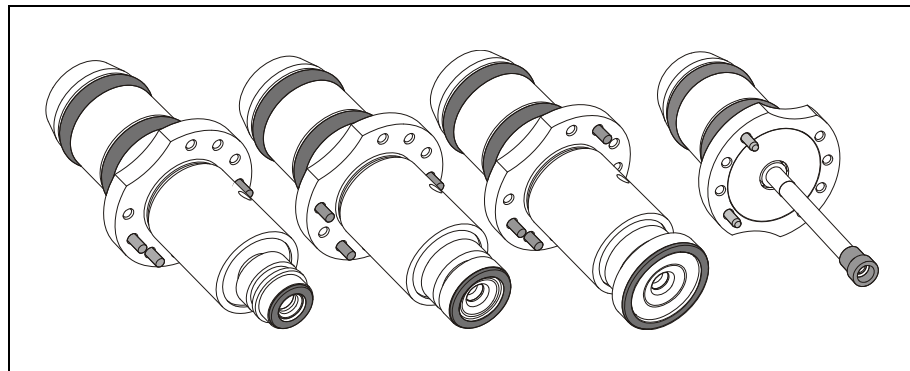

Figure 7-2. Spring-loaded tools.
- Spring-loaded tools, see Figure 7-2.